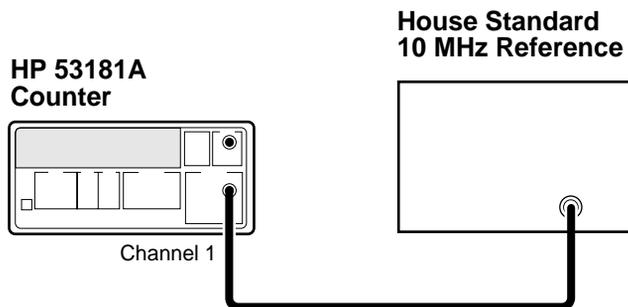

Figure 2-7. Standard Timebase Calibration Setup
- 1 Connect the output of a 10 MHz house standard to Channel 1 of the Counter as shown in Figure 2-7.
1 Connect the output of a 10 MHz house standard to Channel 1 of the Counter as shown in Figure 2-7.